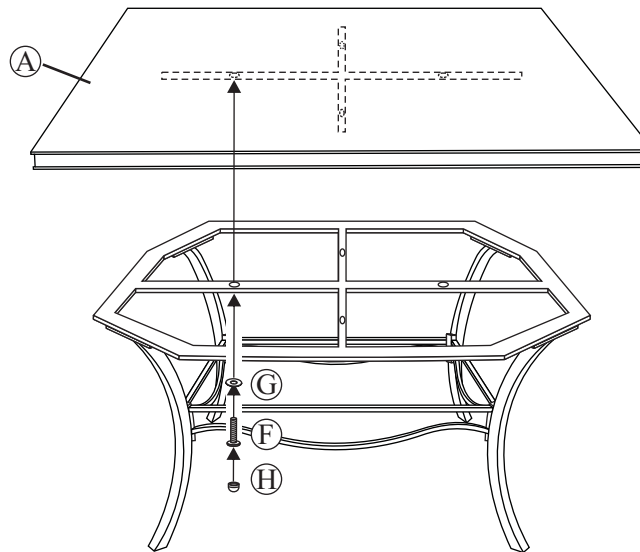

Fig. 3
Step 5: With the help of another person, turn the table assembly in the upright position. With the help of another person, carefully place the natural stone table top onto the table base. After making any necessary adjustments to the alignment of the natural stone table top and the table rim, use the 1/4"x35 mm bolts and Ø18x1.5 mm washers as shown in Fig.3. Guide the bolt through the table rim, into the pre-drilled hole on the underside of the natural stone table top. **Do not tighten completely.** Repeat on the other three holes of the table rim. (Note: holes do not go through to the top of the table. Holes shown for illustration purposes only.)